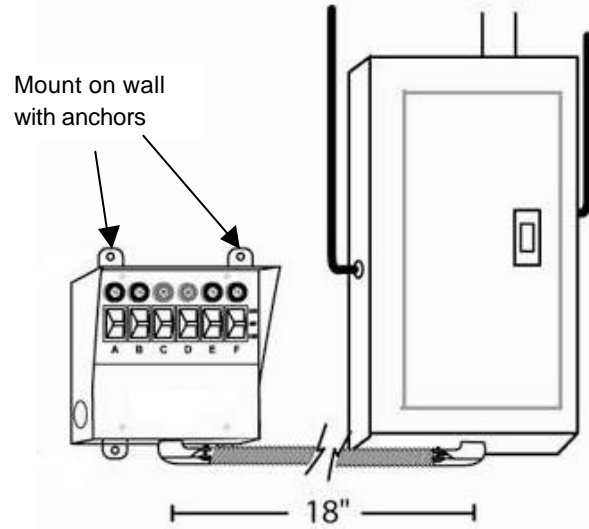

Figure 2
1. Position the transfer switch so that its bottom center is about 18 inches from the bottom center of your load center. The end of the flexible conduit whip should be lined up with a 3/4" or 1" knockout hole on the bottom of your load center. Select a 3/4" knockout for 4- and 6-circuit transfer switches, and a 1" knockout for 10-circuit transfer switches (Figure 2).